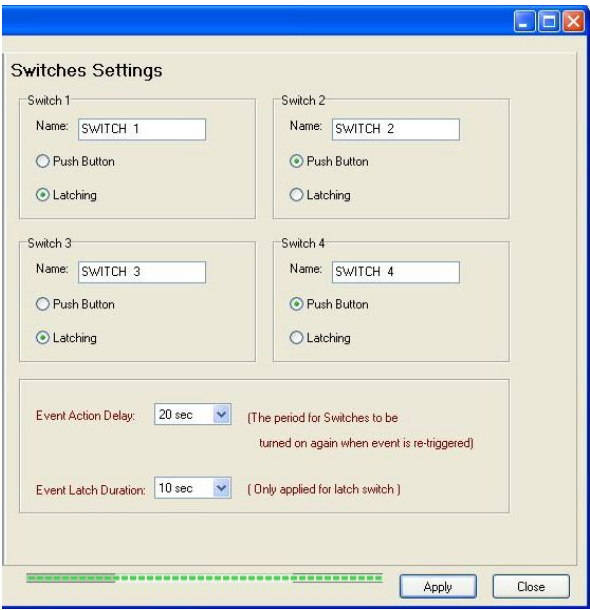

Fig 8.2.3g
Step 4 : Click **[Switch Settings]** button to pop up **{Switch Settings}** panel as **Fig 8.2.3g**.